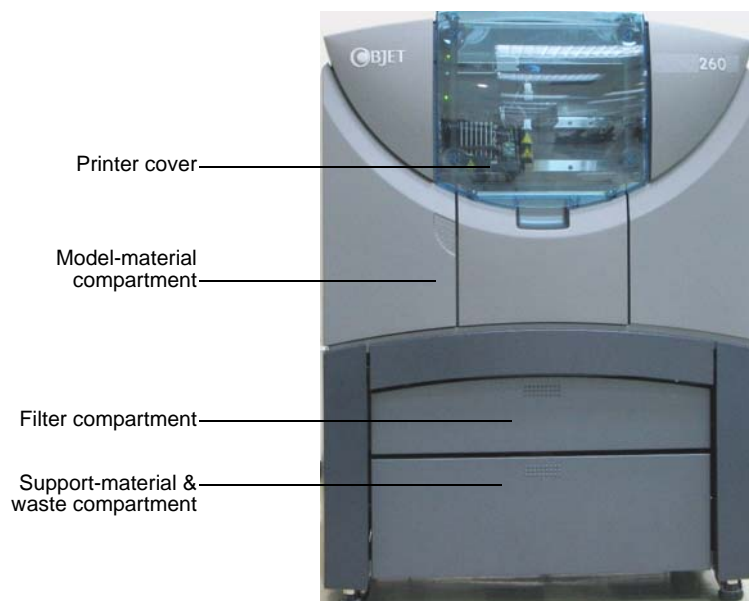

Figure 6-1: The 3D Printer
1. On the front of the printer (see figure 6-1), push the door of the relevant storage compartment to release and open it.